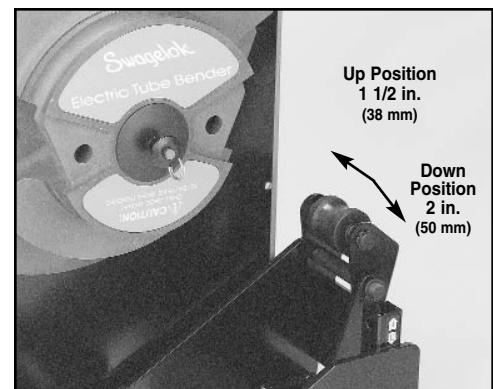

Figure 1
1. Select and install proper tail rollers. To bend 1 1/2 in. (38 mm) OD tubing, use the fixed tail roller in the up position. For 2 in. (50 mm) OD tubing, use the fixed tail roller in the down position. (See Figure 1.)